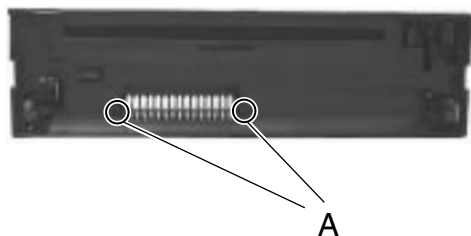

Fig 3
■ Removing the front chassis assembly (See Fig. 3, 4)